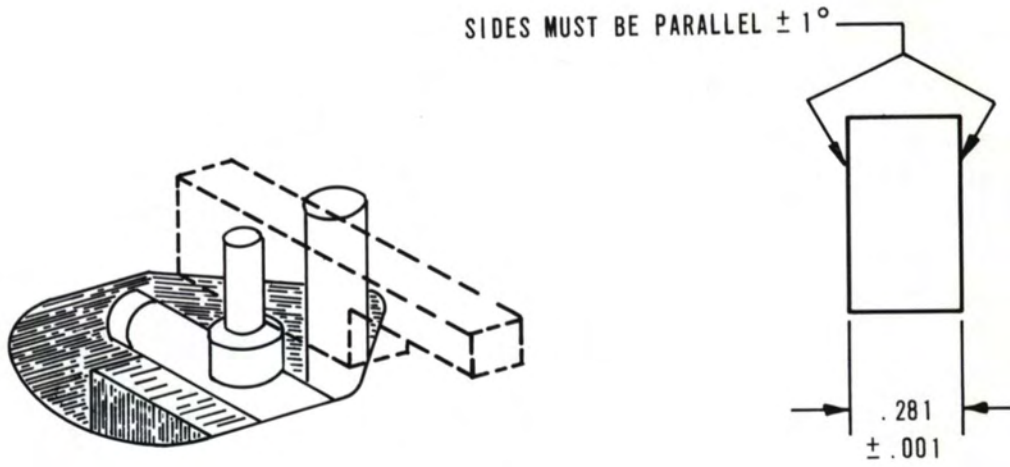

FIG. 5-6
- 3) Adjust screw B for exact perpendicularity between the deck surface and pole faces. This may be done using a metal gauge (Figure 5-6 or good quality machinist rule  $3/4$  or 1 inch wide) which is known to be square. Resting one edge of the gauge on the deck surface, move the gauge against the face of the head. At the point of perpendicularity, no space should be visible between the head and gauge as the gauge is resting flat on the deck.
**MOTOR POSITION:** The position of the drive motor is adjustable by means of two mounting screws which are accessible from above the main deck structure. To provide access to the mounting screws, the head bracket should be removed; and to facilitate replacement of the bracket, its position should be marked on the main deck prior to removal. The motor assembly should be positioned to center the capstan shaft on the pinch roller shaft and 3-9/16 inches from the front edge of the deck (where it joins the back of the front panel). This can be set more precisely using Gates 815-1447 capstan adjustment gauge or a similar gauge made from information in Figure 5.6. To use this gauge, remove the rubber pinch roller and hold the gauge as shown in
Figure 5.6. With the two motor mounting screws loose, center the motor shaft on the pinch roller shaft and grasp the gauge and both shafts tightly so that they are parallel and touching. Tighten the motor mounting screws securely. Check to be sure that the gauge touches the capstan shaft along its entire length to insure that the pinch roller shaft is parallel with the capstan shaft. Replace the pinch roller. DO NOT ENERGIZE SOLENOID.